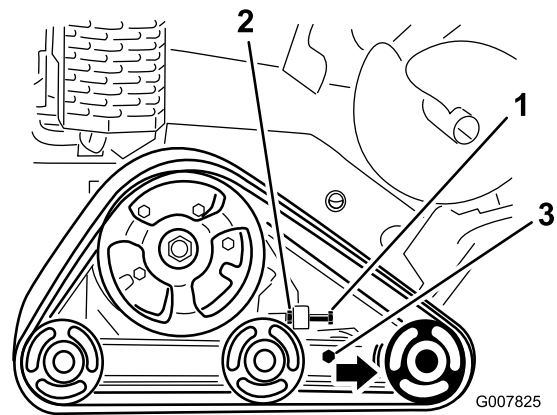

Figure 49
3. Loosen the jam nut on the track tensioning bolt and the clamp bolts on the tension arm (Figure 49).
4. Torque the tensioning bolt to 32.5 to 40 N·m (24 to 30 ft-lb) to tighten the track (Figure 49).
4. Back out the tensioning bolt and jam nut (Figure 49).
5. Loosen the clamp bolts (Figure 49).